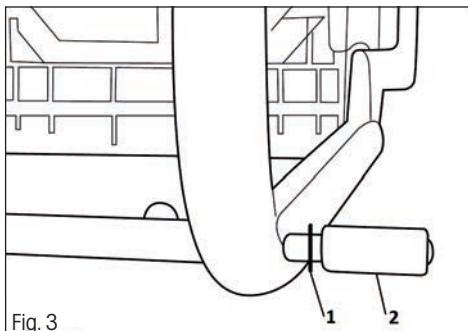

Fig. 3
- put a washer and a wheel bushing on each side of the axle. Fig 3.